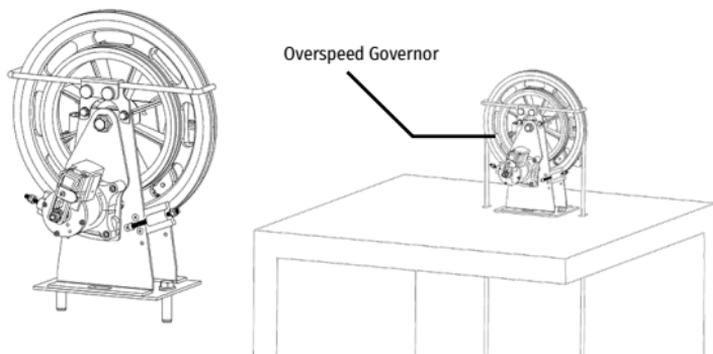

Fig. 9
- In no case, the counterweight must touch the floor. Figure 9.